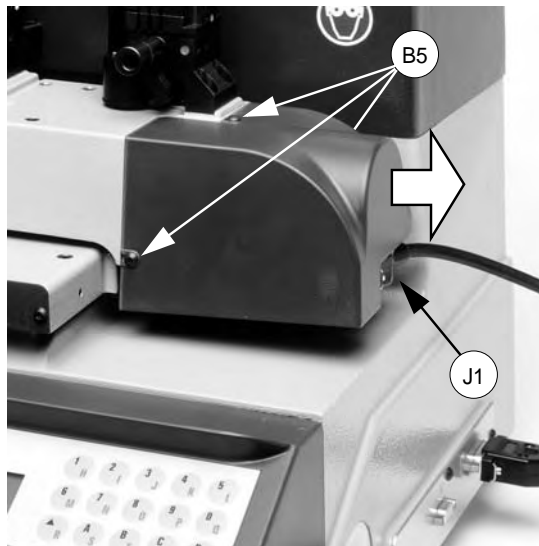

Fig. 50
- 11) disconnect the (J1) Y axis cable from the carriage (fig. 50).
- 12) remove the Y axis carriage cover by unscrewing the 3 (B5) locking screws and pull the cover in the direction shown in fig. 50.